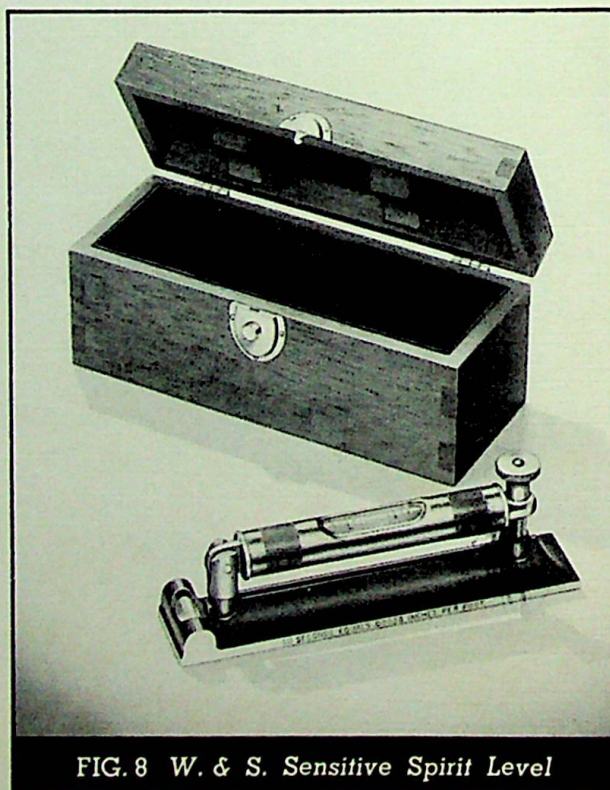

FIG. 8 W. & S. Sensitive Spirit Level
2. Don't use a machinist's level. It's not accurate enough. Use sensitive spirit level (Fig. 8).
FOR ALIGNMENT, a sensitive adjustable, graduated tube spirit level is required, reading to 10 seconds of arc per graduation (.0006" per foot). One provided with screw adjustment is best. Ordinary levels are not accurate enough for this type of leveling. A suitable level, with protective case, is listed on page 152 in the Warner & Swasey Turret Lathe Tool Catalog, Part No. SO-660 (Fig. 8).